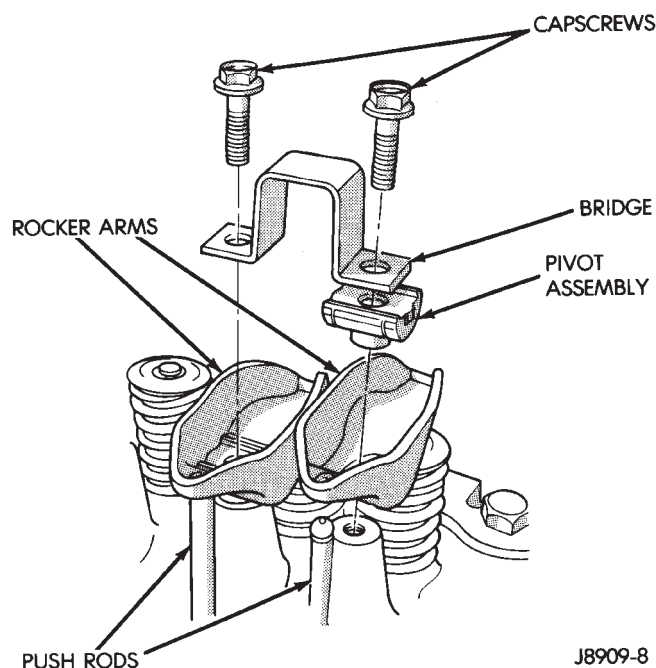

Fig. 33 Rocker Arm Assembly
- (1) Remove the engine cylinder head cover. (Refer to procedure in this section)
- (2) Check for rocker arm bridges which are causing misalignment of the rocker arm to valve tip area.
- (3) Remove the capscrews at each bridge and pivot assembly (Fig. 33). Alternately loosen the capscrews one turn at a time to avoid damaging the bridges.
- (4) Remove the bridges, pivots and corresponding pairs of rocker arms (Fig. 33). Place them on a bench in the same order as removed.
- (5) Remove the push rods and place them on a bench in the same order as removed.